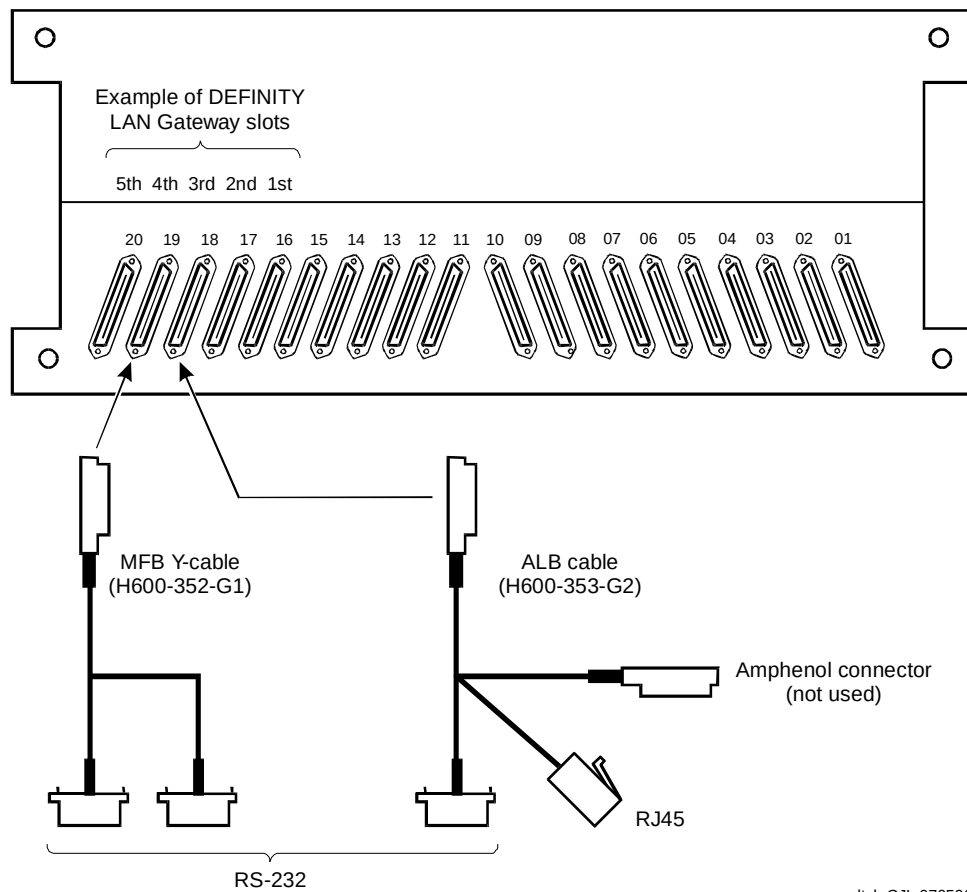

Figure 12-86. Connecting the DEFINTY LAN Gateway Adapter Cables (Rear View)
The slots are numbered from left to right on the front panel of the switch cabinet, and from right to left on the rear panel as shown in Figure 12-86. The five port slots are occupied by the DEFINITY LAN Gateway system assembly as follows:
2. Referring to Figure 12-86 and to Steps 2a and 2b that follow, connect the DEFINITY LAN Gateway system assembly adapter cables to the port connectors on the back of the switch.